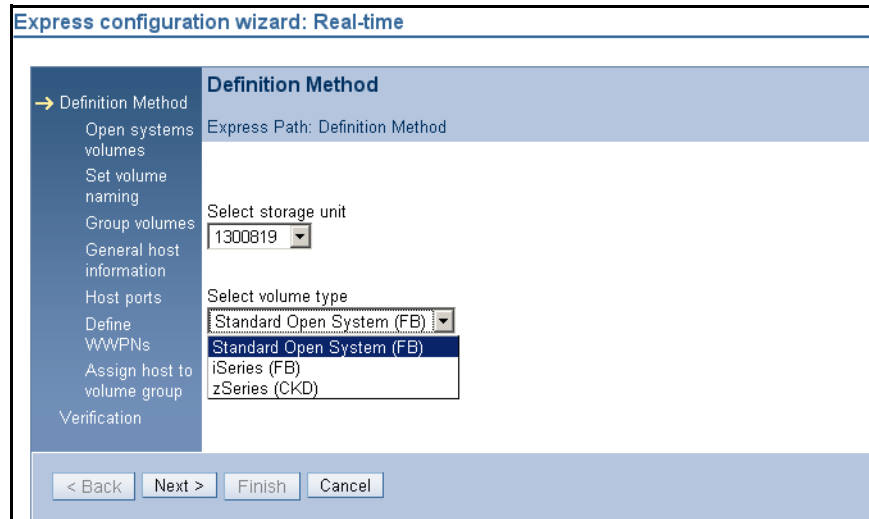

Figure 11-2 Express configuration Real-time: Selecting the Storage Unit and the volume type to be configured
On the initial Express configuration window, you need to select the **Storage Unit** and the **Volume type** to be configured from the drop-down menus, as shown in Figure 11-2.
1. Select the Storage Unit to be configured and the appropriate volume type from the drop-down menus, as shown in Figure 11-2 on page 201.
1. Just select the Storage Unit to be configured and the appropriate volume type from the drop-down menus, as shown Figure 11-2 on page 201.